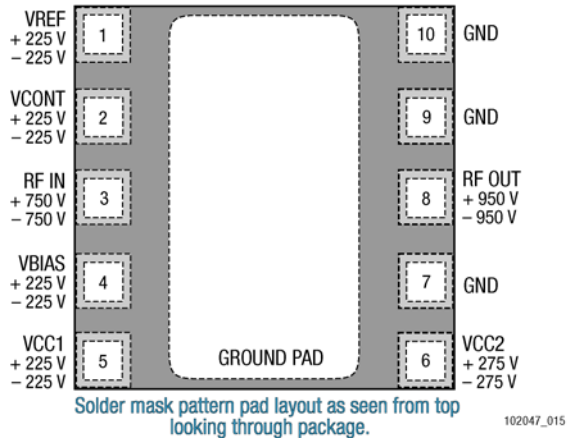

Figure 13. ESD Sensitivity Areas – Machine Model (Top View)
The CX77144 is a Class I device. Electrostatic Discharge (ESD) immunity levels for each pin of the CX77144 product are shown in Figure 12, using the Human Body Model, and in Figure 13, using the Machine Model.
The numbers in Figure 13 specify the ESD threshold level for each pin where the I-V curve between the pin and ground starts to show degradation. ESD testing was performed in compliance with JESD22-A115B using the Machine Model (MM) and has met the classification criteria for Class B